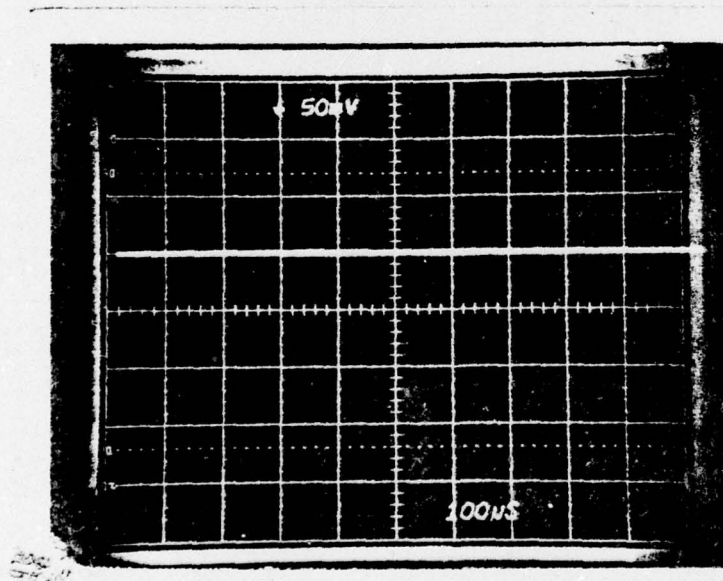

FIGURE 2
- 3) Operation: Apply power to scope, microscan receiver and translator. Allow 10 minutes for warm-up. Adjust the 7B92 trigger level so the horizontal sweep is triggered. Set TIME/DIV to 100 μ s/div. The display should be a solid line on the screen. Center this line on the first graticule line above the center line, as in Fig. 2.